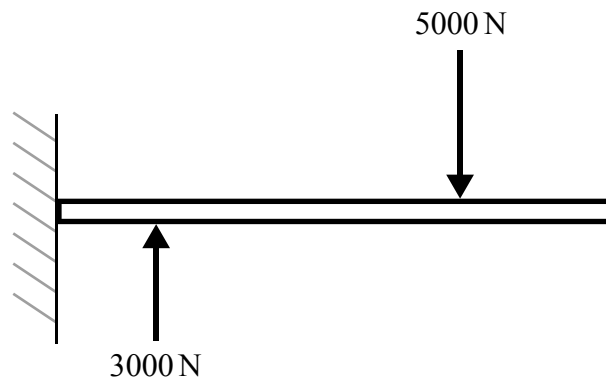

Fig. 3b
(B) Indicate the position and direction of this force on Fig. 3b.